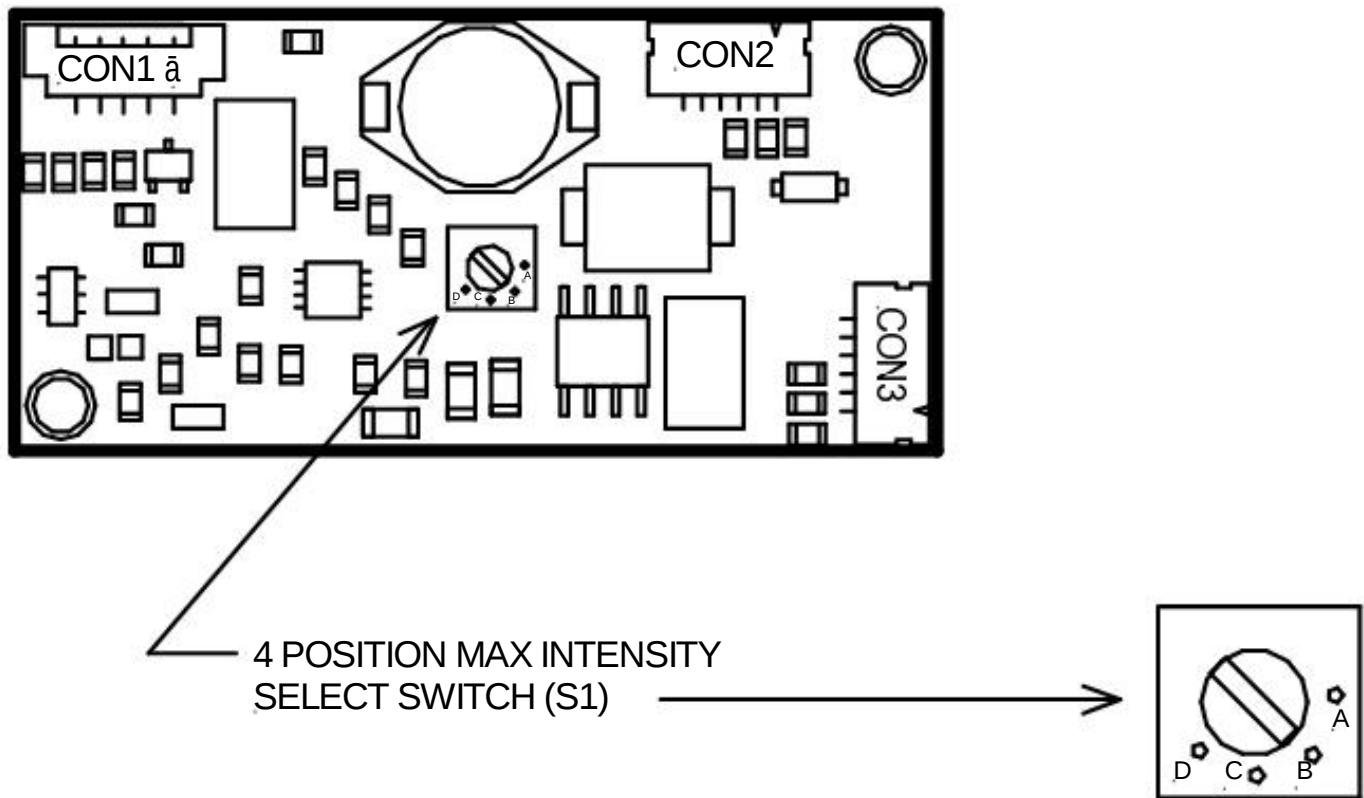

Figure 1. ± Illustration of S1 Switch Positions
3. Using a small flat-head screwdriver, set the position of the S1 Switch on the LED Driver, per the setting shown in Table 1 (Refer to Figure 1 on page 4 for illustration of S1 Switch positions).